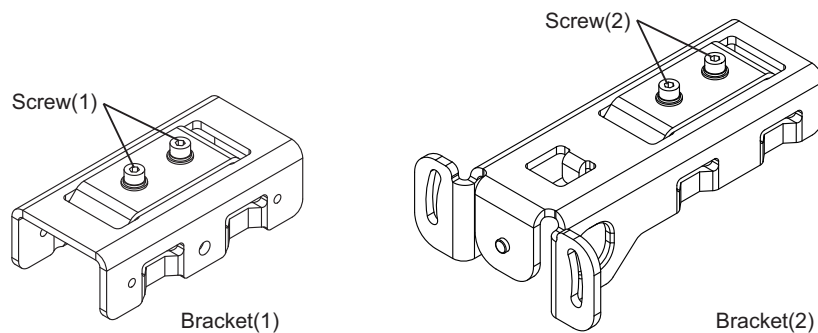

Fig. 1
1. Loosen the Screw(1) (hexagon socket head cap screw (M4x8)) of Bracket(1) and the Screw(2) (hexagon socket head cap screw (M4x8)) of Bracket(2). (Fig. 1)